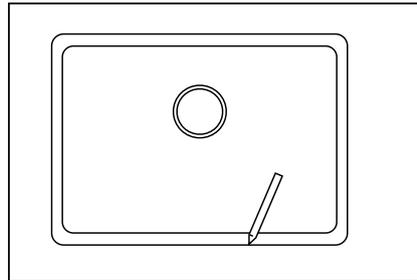

fig. 1
1. Turn the worktop and the sink upside down. Place the sink exactly above the opening for the bowl and trace it with a pencil (see fig 1). Take the sink off the worktop.